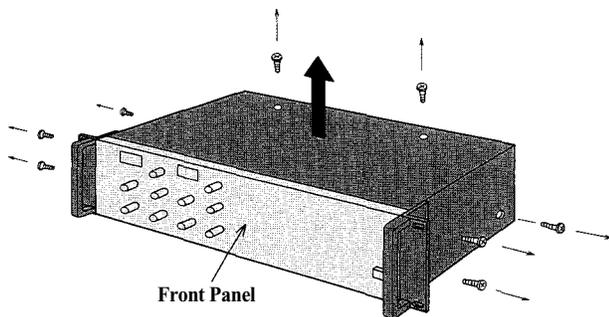

Fig.1
2. Remove the eight screws that secure the D-4/D-4E outer case to the main chassis, and carefully remove the case. (See Fig 1)